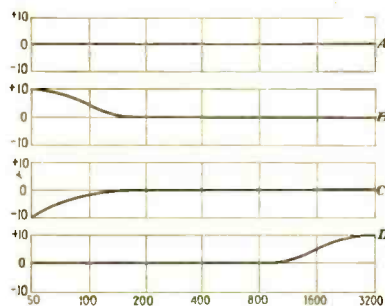
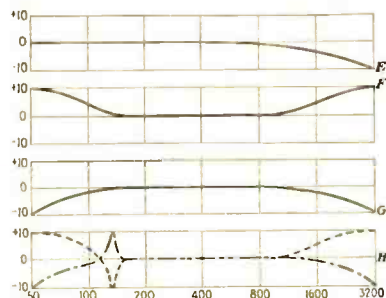
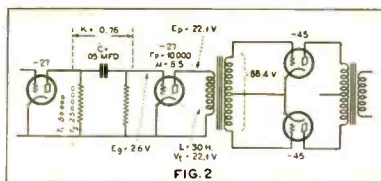

Fig. 4. Reproduction characteristics.
Fig. 4A. Effect of tuned shunt.
Fig. 2. Amplifier circuits.
By suitable manipulation of the controls—more specifically K and K'' —the following characteristics may be given to the reproduction: (A) Normal; (B) louder bass; (C) softer bass; (D) louder treble; (E) softer treble; (F) louder bass and treble, with normal middle register; (G) softer bass and treble with normal middle register. These characteristics are shown in Fig. 4. The effect of the tuned shunt is shown in Fig. 4A, curve H, where the full line represents the overall level, the dotted line the level without any compensation. The resonance peak occurs at X, and the dot-and-dash line shows the amplifier characteristic including the effect of the tuned shunt.
Suppose the audio amplifier consists of two stages, following the detector, as shown in Fig. 2, and that a 227 tube is used as first a-f. amplifier. Also suppose that for economic or other reasons the first a-f. tube is coupled to the detector by a resistance-capacity coupling. Also assume that the input push-pull transformer has a turn-ratio of 4 to 1.
Having decided all these things we can tackle the resistance-capacity coupling. Fig. 4 shows the equivalent circuit. It consists of a voltage E_p , which is the audio voltage delivered by the detector plate to the coupling circuit. In series with this we have the r_p of the tube, 22,000 ohms. The rest of the circuit looks unfamiliar, but it will be seen to be identical with the resistance coupling circuit in Fig. 2. It is drawn in this manner to indicate that the circuit is really a voltage divider, only part of the voltage E_p being delivered across the points ab since part of it is lost in the resistance r_p ; and again, only part of the voltage across ab is delivered to the resistor r_g , since part of it is lost in the coupling condenser C.